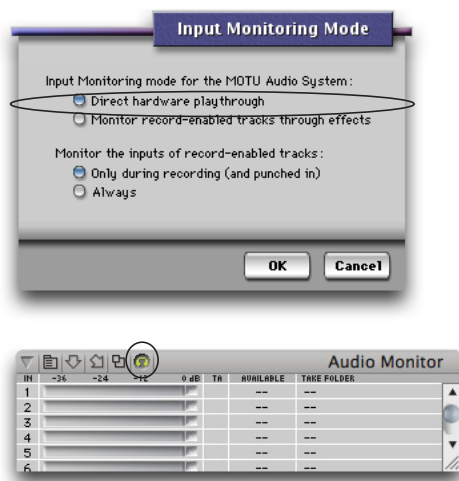

Figure 12-8: Enabling CueMix DSP in AudioDesk or Digital Performer.
**2** Choose the *Direct hardware playthrough* option, as shown below in Figure 12-8.